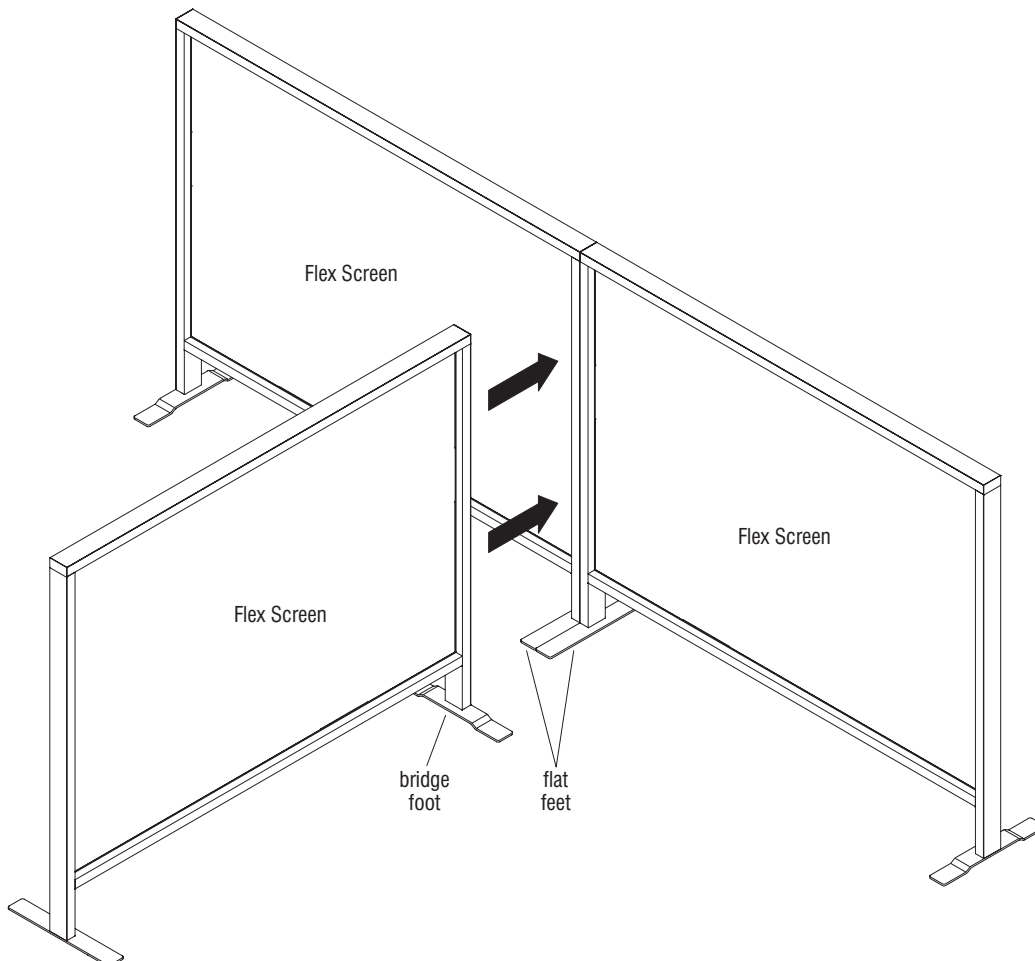

Figure 4 - Flex Screen 3-Way Intersection
1. With the in-line Flex Screen in its final location, carefully lift and arrange the perpendicular Flex Screen to the 3-way location per the space-planning layout (Figure 4).
2. Place the screen with the bridge or adjustable glide foot over the in-line screen's flat feet (Figure 4).